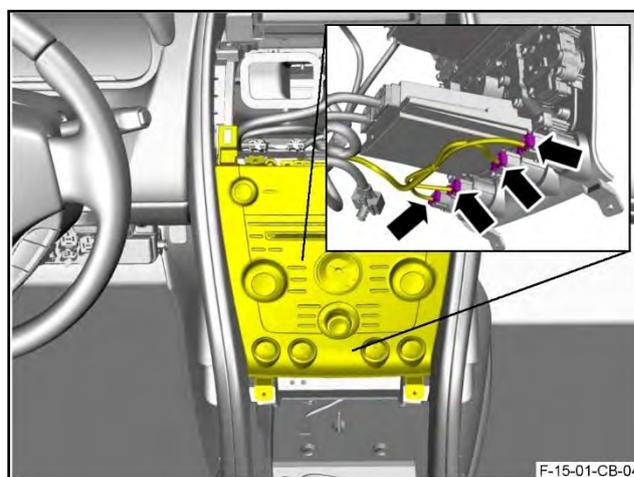

Figure 55
66. Disconnect the four electrical connectors from the control switches (refer to Figure 55).